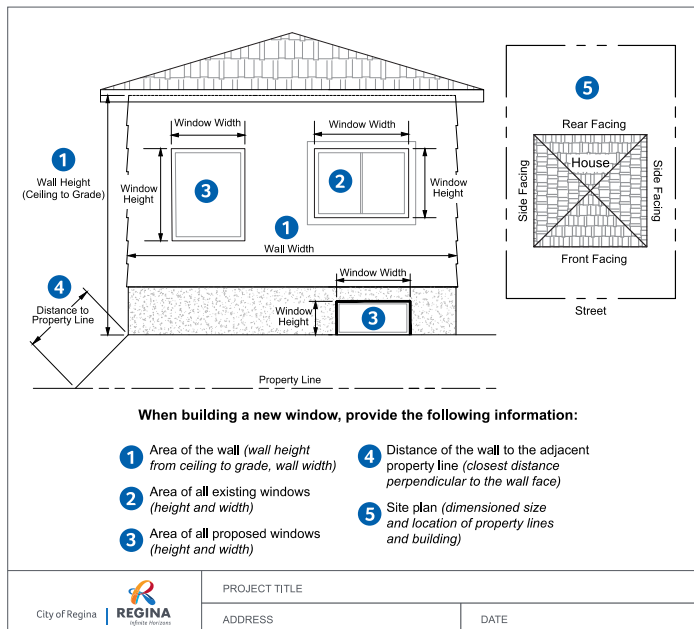

Figure 2 - Sample Window Elevation
- Length and height of wall (measured from grade to ceiling height) (see Figure 2, Item 1)
- An engineered design will be required for new windows/openings or enlarged openings in the foundation as per Bylaw No. 2023-59, Subsection 36(1) (see Figure 2, Item 3)
- Distance to property line (measured perpendicular to wall face) (see Figure 2, Item 4)